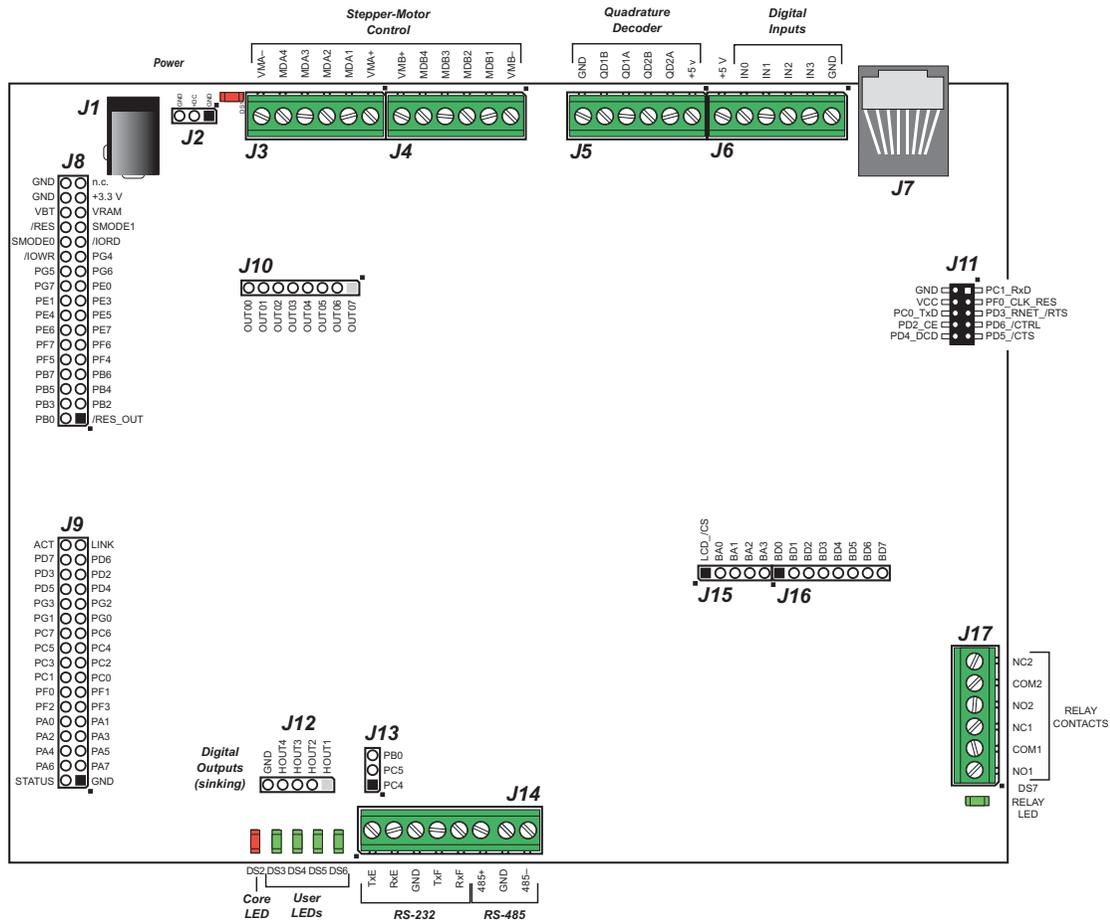

Figure B-4. Prototyping Board Pinout
- **Module Extension Headers**—The complete pin set of the RCM3360/RCM3370 module is duplicated at headers J8 and J9. Developers can solder wires directly into the appropriate holes, or, for more flexible development, 2×17 header strips with a 0.1" pitch can be soldered into place. See Figure B-4 for the header pinouts.
- **Digital I/O**—Four digital inputs are available on screw-terminal header J6. See Figure B-4 for the header pinouts.
- **Quadrature Decoder**—Four quadrature decoder outputs (PF0–PF3) from the Rabbit 3000 chip are available on screw-terminal header J5. See Figure B-4 for the header pinouts.
- **H-Bridge Motor Driver**—Two pairs of H-bridge motor drivers are supported using screw-terminal headers J3 and J4 on the Prototyping Board for stepper-motor control. See Figure B-4 for the header pinouts.
The Prototyping Board pinouts are shown in Figure B-4.